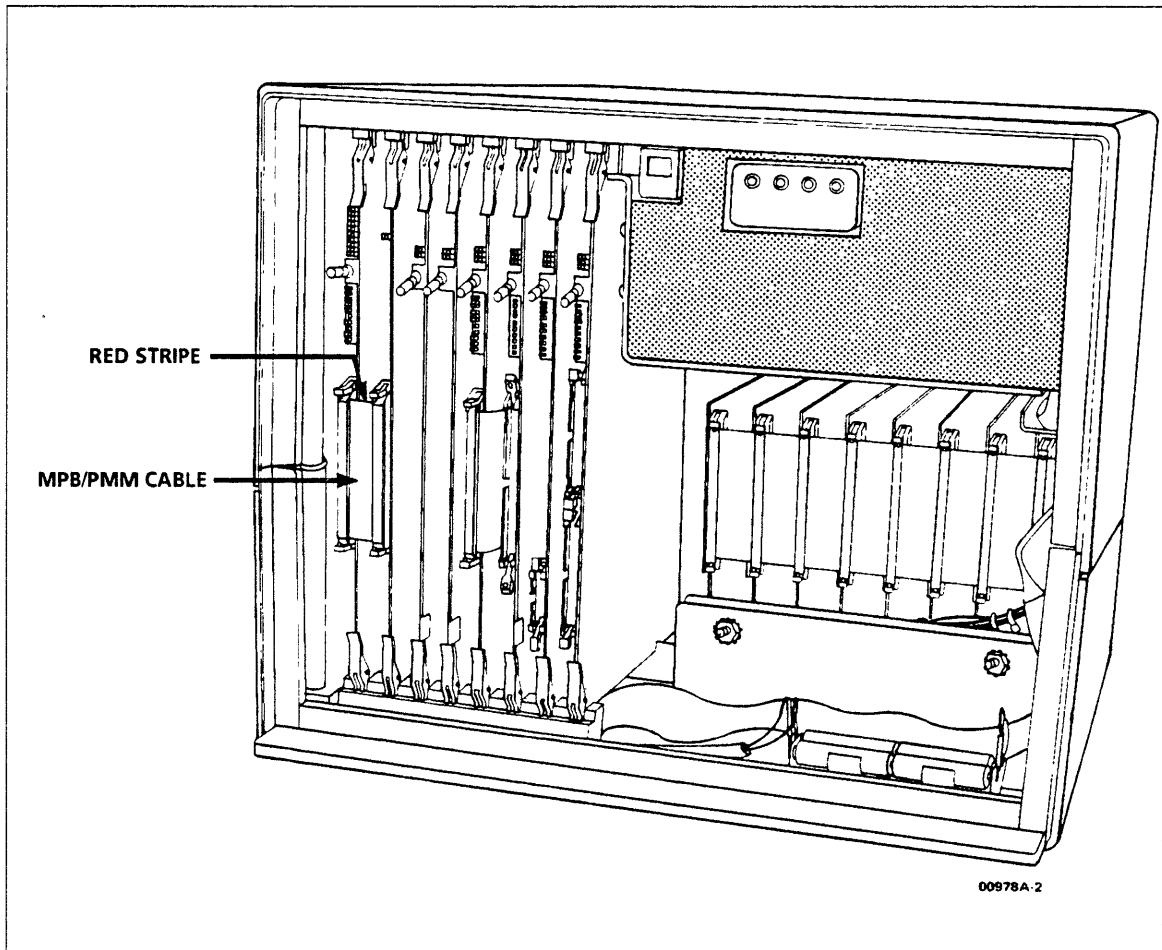

Figure 3-25. Installed MPB/PMM Cable
5. Orient cable so edge with red stripe is on top and connect it to connectors on front edge of PMM and MPB boards (figure 3-25).